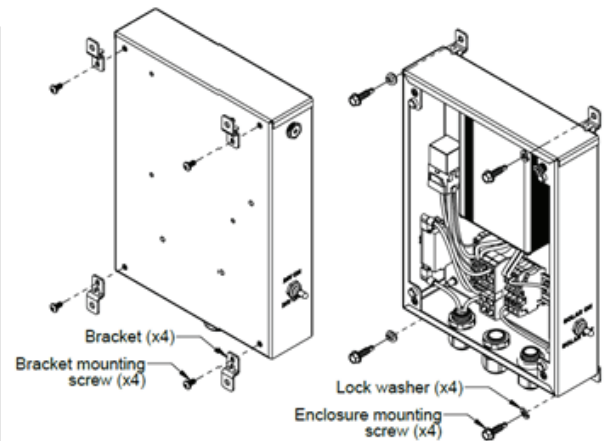

FIGURE 6
4. Install the 4 brackets to the back surface of the unit using the 4 thread-locking machine screws (blunt end). (Figure 6)
5. Mount the unit to the wall vertically using 4 of the self-tapping screws (pointed end) and lock washers. (Figure 6)